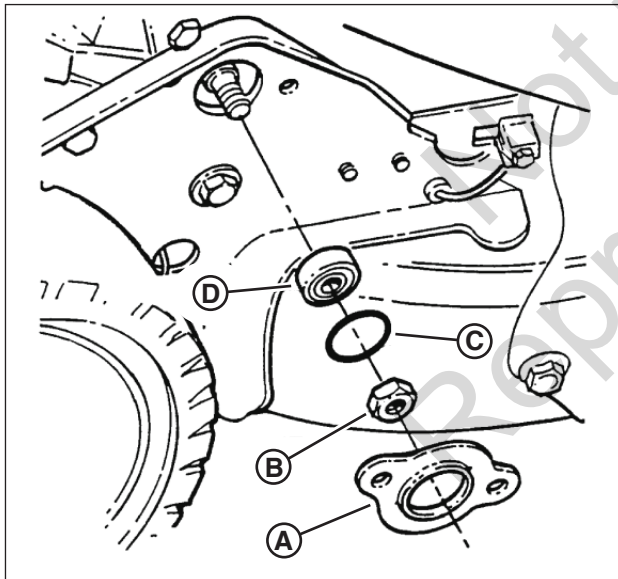

Figure 32: Replacing the hex shaft bearing
2. Remove the 3/8" hex lock nut (**B**, **Figure 32**), located on the outside of the right wheel bracket.